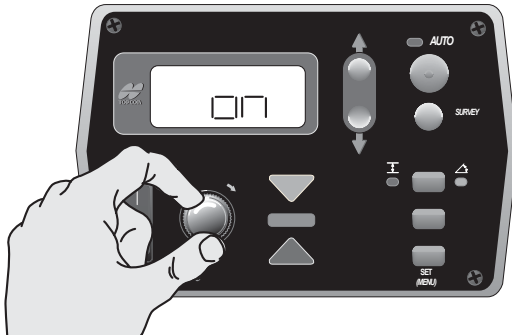

Figure 4-40. Turning Beeper On
2. Turn the Grade Adjustment Knob to turn the beeper ON or OFF (Figure 4-40).